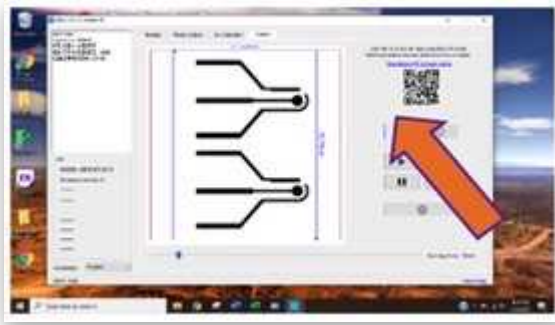

Figure 2E
j. Click on the square with red dots in the menu to the right (shown in *figure 2E*) to confirm that the laser will not scribe outside the kapton film and turn the laser on again. If needed, turn off the laser, accommodate the kapton film and turn the laser on again.